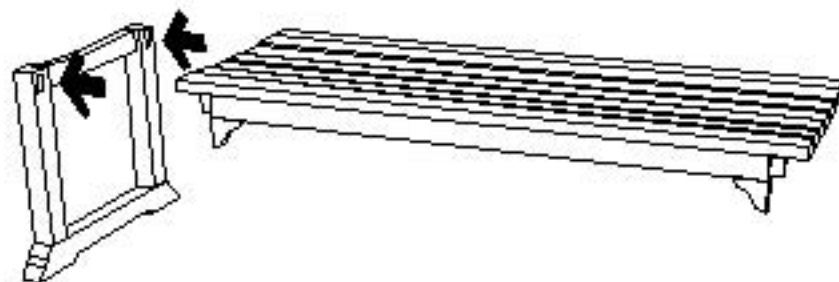

fig 2.
3. Insert the seat to the leg. (Fig. 2)